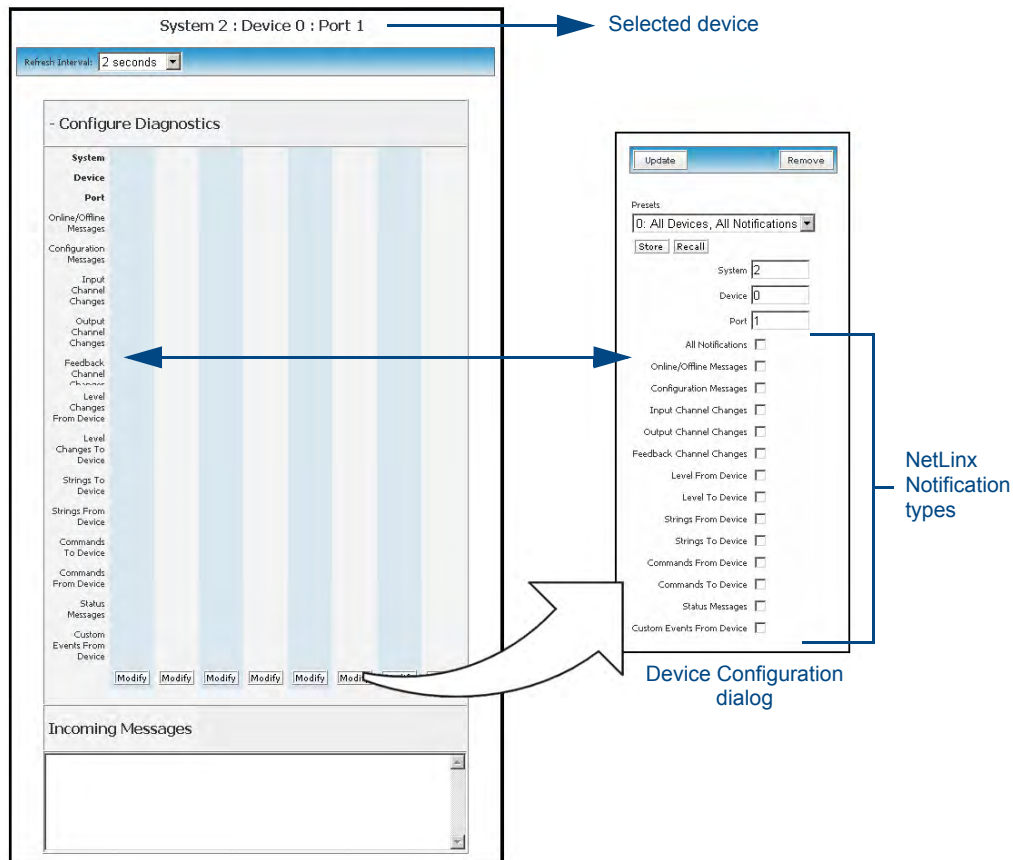

FIG. 46 Diagnostics dialog (showing modify popup)
3. Click the **Diagnostics** button to open the Diagnostics dialog (FIG. 46).